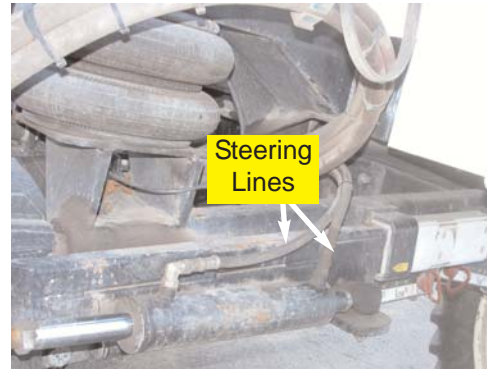

Figure 5a. Steering lines connected to the steering cylinder.
- a. Locate the steering lines on the front steering cylinder. (Figure 5a.)